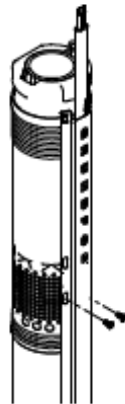

Figure 3-4: Fitting the Cable Guard to the Pump Suction Strainer
3. Fasten the cable guard to the pump suction strainer with the two self-tapping screws supplied, see **Figure 3-4**.